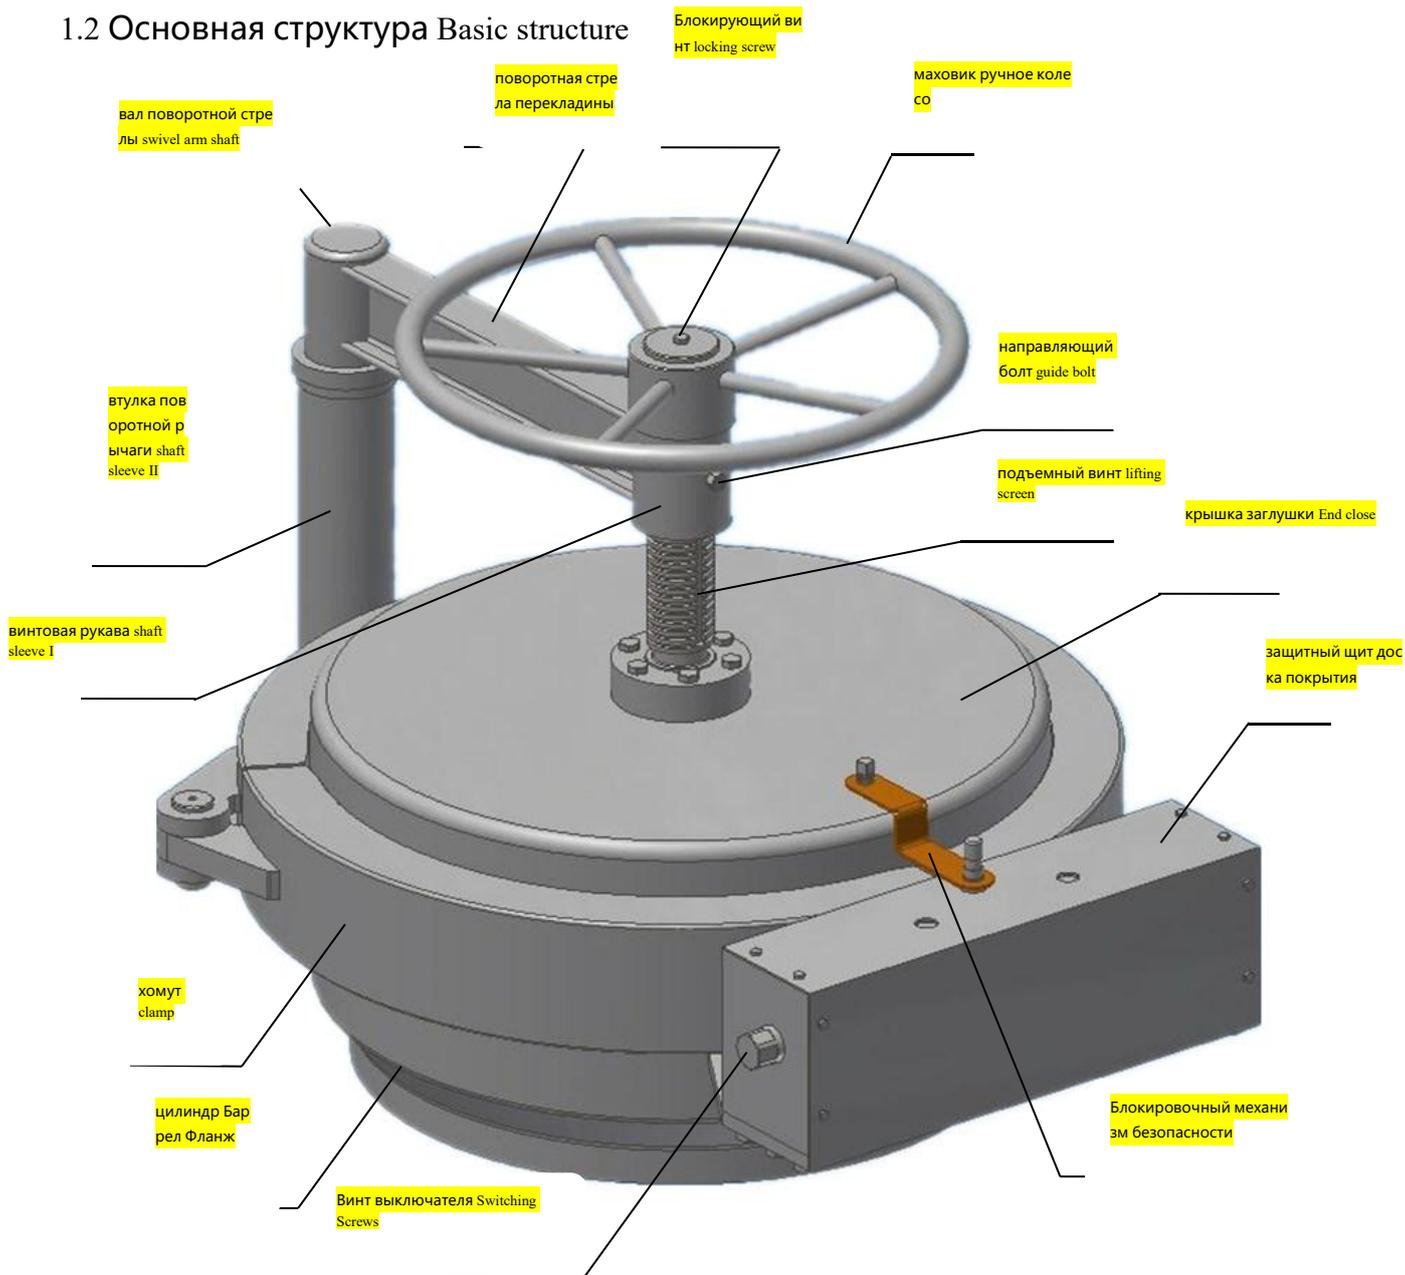

Рисунок 1 (picture 1)
2) As show in Figure 1, a. Remove the handwheel center locking screw b. Remove the handwheel c. Remove the locking nut on the lower end of the swivel arm shaft d. Loosen the guide bolt;